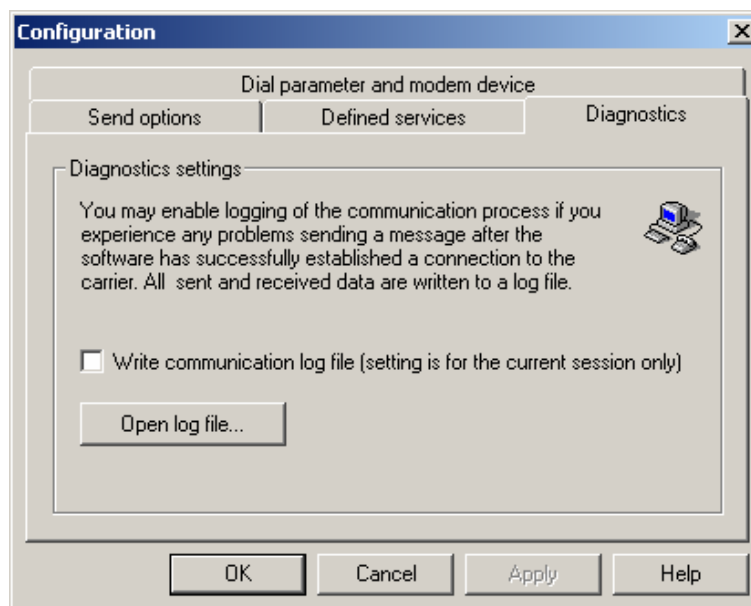

Figure A.8. TAP Configuration: Diagnostics Tab
4. On the **Diagnostics** tab, shown in **Figure A.8**, diagnostic support is available through the TAP dialog. The **Write communication log file** check box should not be used.